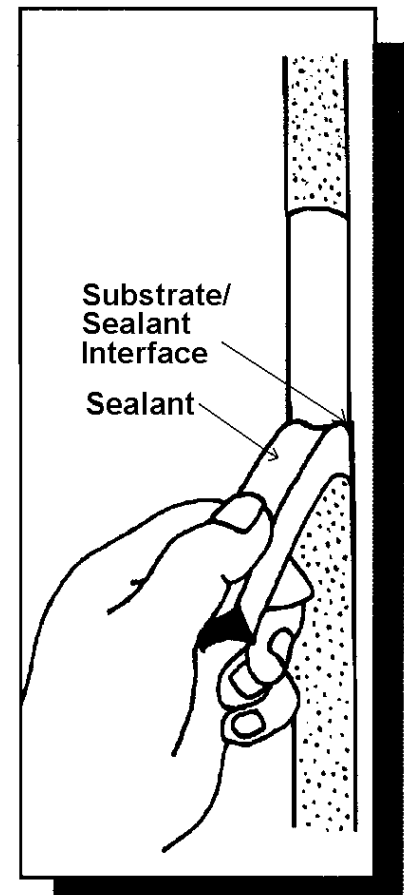

Figure 1
3. Grasp the 3-inch piece of sealant firmly 1-inch from its bonded edge and slowly pull at a 90-degree angle (see Figure 1).